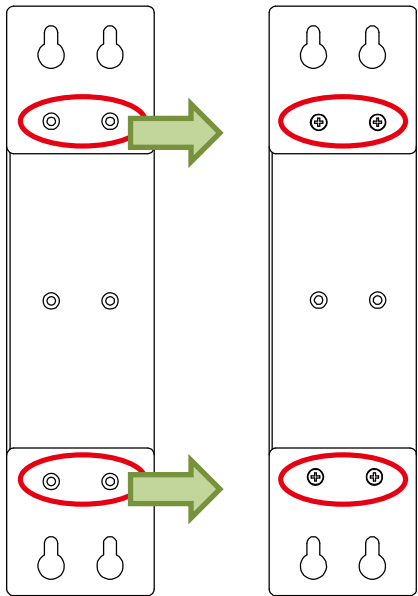

Figure 3-3 Wall mounted installation diagram
- Step 2: Install the wall mounting bracket on the back of the device by using a screwdriver, as shown in Figure 3-3.